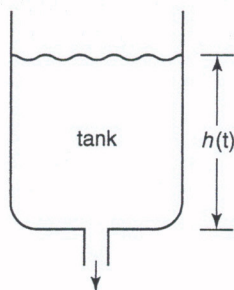

Figure 4.79
44. We can use a technique called *quasi-steady-state problem solving* to estimate the time it takes a tank to drain completely. Consider the tank in Figure 4.79.